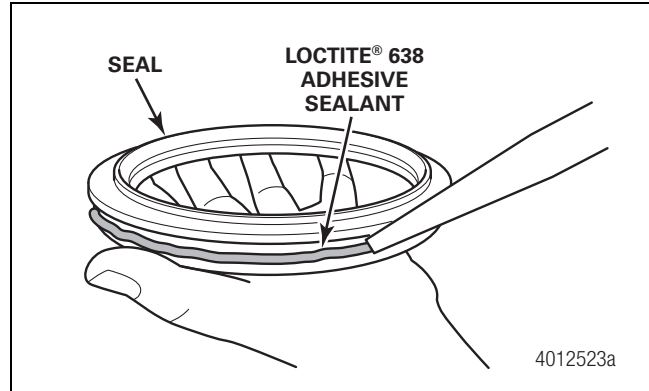

Figure 11.5
7. Prior to installing the new hub seal, apply a bead of Loctite® 638 adhesive sealant around the outside diameter of the seal as shown. Use Loctite® 680 adhesive sealant if Loctite® 638 is unavailable. Figure 11.5.